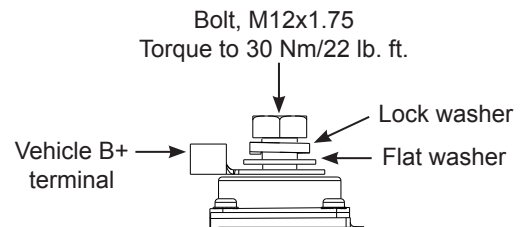

Figure 2: B+ Terminal Hardware Stacking Order
5. Connect vehicle B+ cable to alternator B+ terminal. Install mounting hardware in stacking order shown in Figure 2. Torque hardware to 30 Nm/22 lb ft.